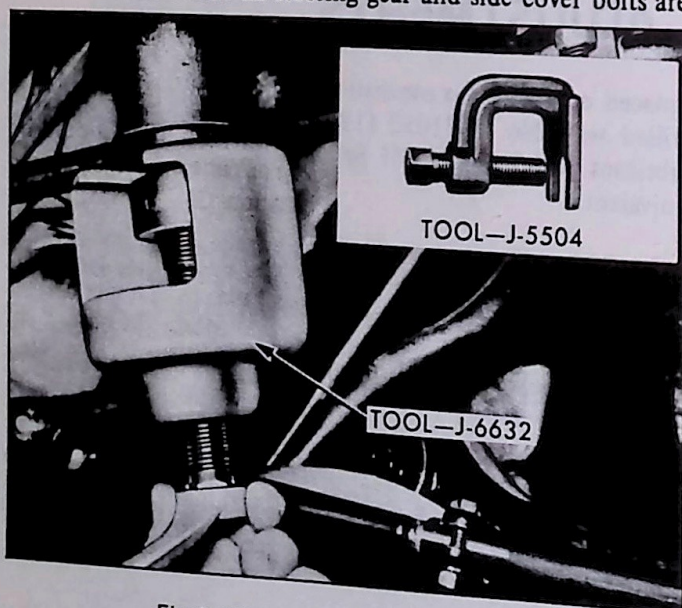

Fig. 1—Removing Pitman Arm (Typical)
2. Remove the pitman arm to pitman shaft nut. Mark the relationship of the arm to the shaft and then remove the pitman arm using Tool J-6632 or J-5504 (fig. 1).
4. Remove the pitman arm to pitman shaft nut. Mark the relationship of the arm to the shaft and then remove the arm from the shaft using Tool J-6632 or J-5504 (fig. 1).